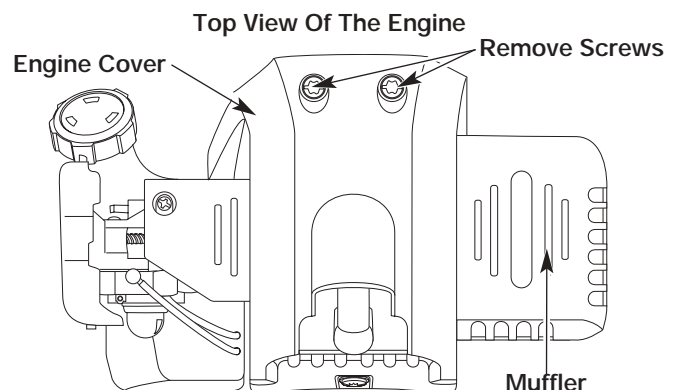

Fig. 42
2. Remove the two (2) screws on top of the engine cover with a Flat-head or T-20 Torx screwdriver (Fig. 42).
- Remove the engine cover (Fig. 42).